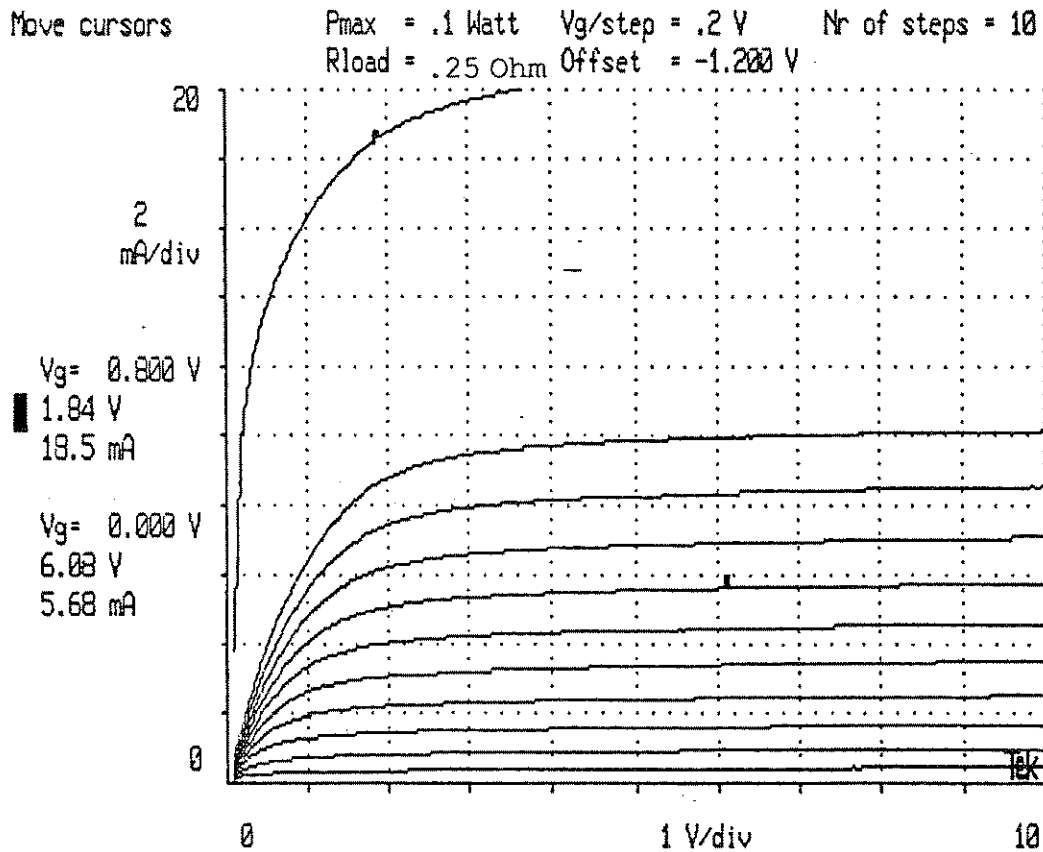

Figure 3-11: JFET Curves in Depletion and Enhancement Mode
Step 3. Press START and observe a set of curves as in Figure 3-11.
The curves above the curve  $V_g = 0 \text{ V}$  in Figure 3-11 represent the enhancement mode, the curves below  $V_g = 0 \text{ V}$  represent the depletion mode.